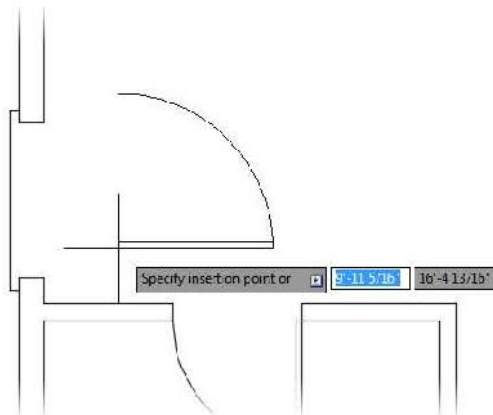

FIGURE 7.10: The A-DOOR-36IN (A-DOOR-0915) block attached to the cursor
3. The preview of A-DOOR-36IN (A-DOOR-0915) is attached at the hinge point coinciding with the intersection of the crosshairs (see Figure 7.10).